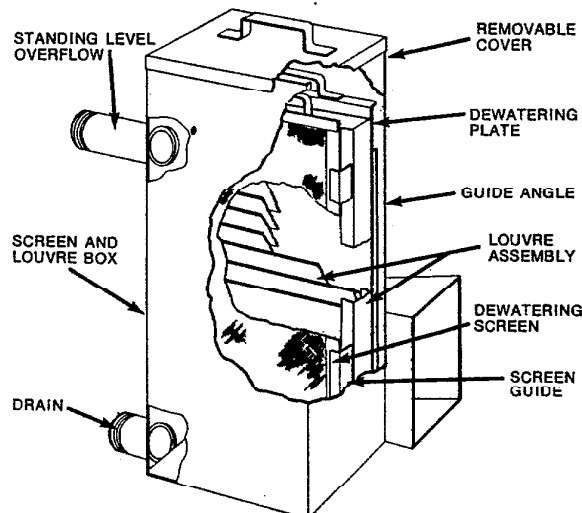

Fig. 8. Elements of Optional Drainbox.
- c. If the dust to be collected tends to float, remain in suspension, agglomerate into lumps or otherwise resists forming a compressed sludge layer, an optional drain box may be provided (see Figure 8). The drain box is furnished with a louvre assembly, dewatering plate and screen. The louvre assembly prevents carryover of lumps that could plug the screen. The dewatering plate and screen work together to prevent fine material from entering drain lines. Should the screen plug, close the drain, remove the drain box cover, slide the screen out of the box for cleaning and replace the screen and the cover before reopening the drain.
Remove louvre, dewatering plate and screen (See Figure 8), wash or clean thoroughly, and replace.